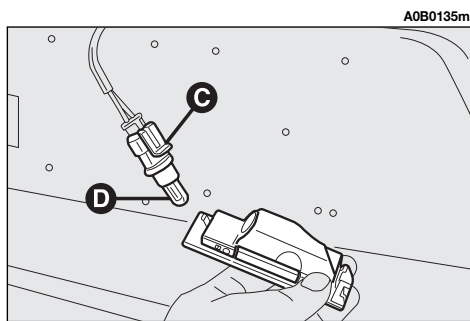

fig. 55
- Remove the bulb holder (**C-fig. 55**) turning clockwise and replace the bulb (**D-fig. 55**) which snaps on.
- Refit the bulb holder (**C-fig. 55**) turning clockwise.